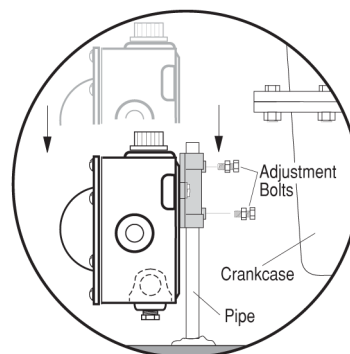

Figure 2B
3. Slip the LM2000 onto the pipe and install the two adjustment bolts. Each bolt consists of a 1/4-20 UNC x 1 in. bolt, nuts and lock washers. See Figure 2B. **DO NOT** tighten the adjustment screws too tightly because you will have to adjust the LM2000 later in the installation process.